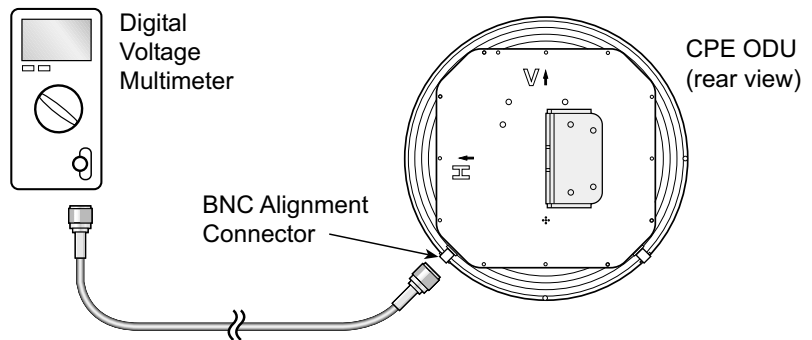

Figure 6-9. Digital Voltage Multimeter (DVM) Connection
- Connect a BNC cable to the ODU alignment port (BNC connector) as shown in Figure 6-9.